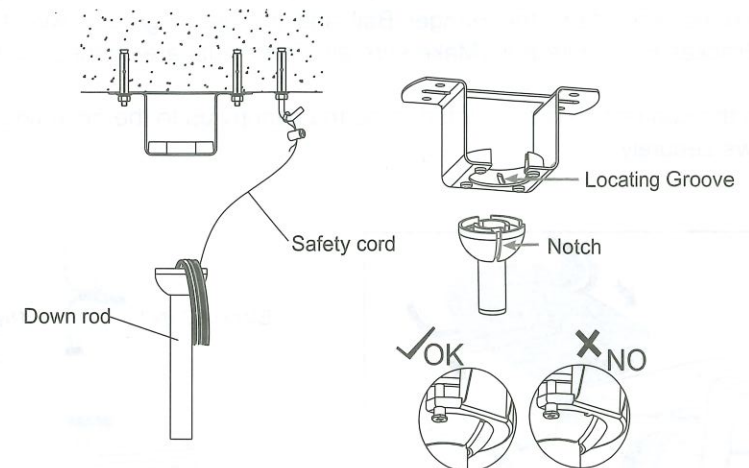

Fig.6
8. Lift the fan motor housing on the mounting bracket, ensure the ball joint locating the groove aligns with the notch on the mounting bracket.(Fig.6)
9. Twine the safety cord around the expansion bolt, insert the safety cord to the wire-lock, tighten the screw to lock safety.(Fig.6)